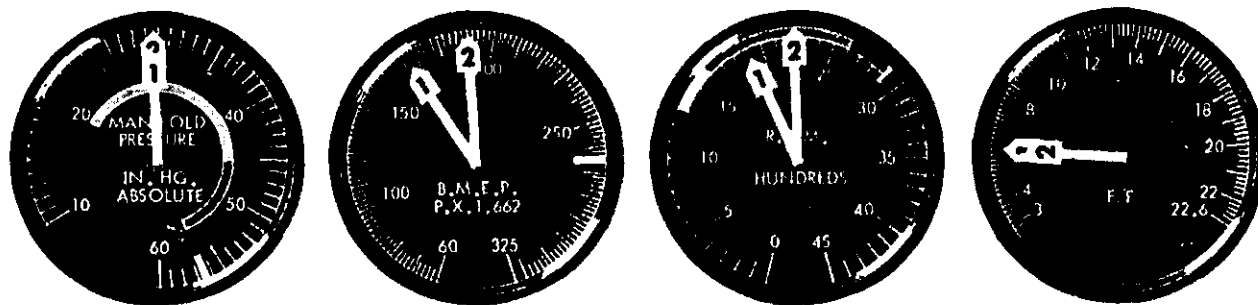

FIGURE 4. Reciprocating Engine Power Check Diagram.
To answer test item 5, refer to the Engine Power Check Diagram, Figure 4.